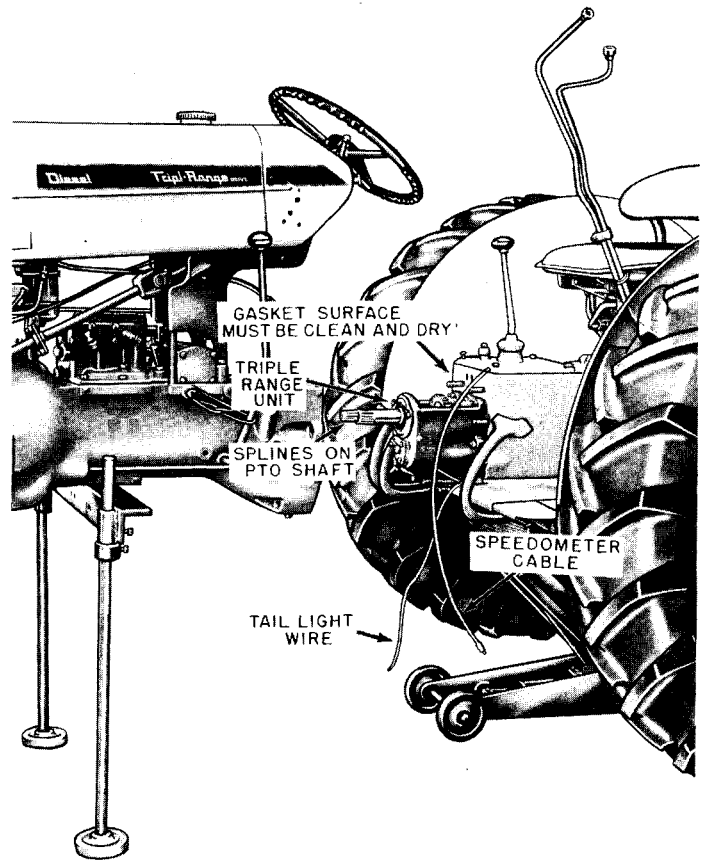

Fig. A-15 Assembling Transmission to Torque Tube
1. Be sure to install a new gasket between torque tube and transmission case. Be sure gasket contacting surfaces are completely clean and dry before installing gaskets. This is very important if oil leakage is to be prevented. Fig. A-15.
2. Move the two units together. If dry clutch tractor is equipped with P.T.O. and it has been removed, leave it out of the tractor until torque tube has been assembled to transmission as it is usually easier assembled due to aligning of only one set of splines when moving the two units together. Fig. A-15.
You will notice in Fig. A-15 that the P.T.O. shaft is still in the tractor. This is merely to show the two different sets of splines. In Fig. A-15, the tractor is equipped with a triple range transmission.